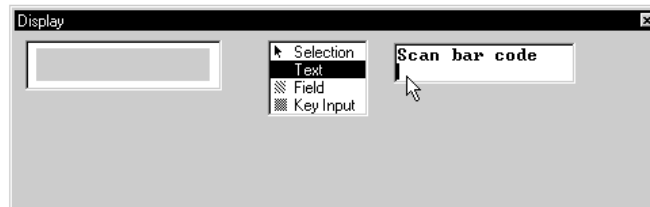

Figure 4-65 Display Window - First Line of Text Entered
38. Type **Scan bar code** on the top line. DO NOT PRESS <ENTER> YET. Use your mouse to click at the beginning of the second line (Figure 4-65) or use the arrow keys on your computer's keyboard to move the cursor to the beginning of the second line. Note: The <Enter> key does not produce a line return in the **Display** window; it is only used to accept the text entry.